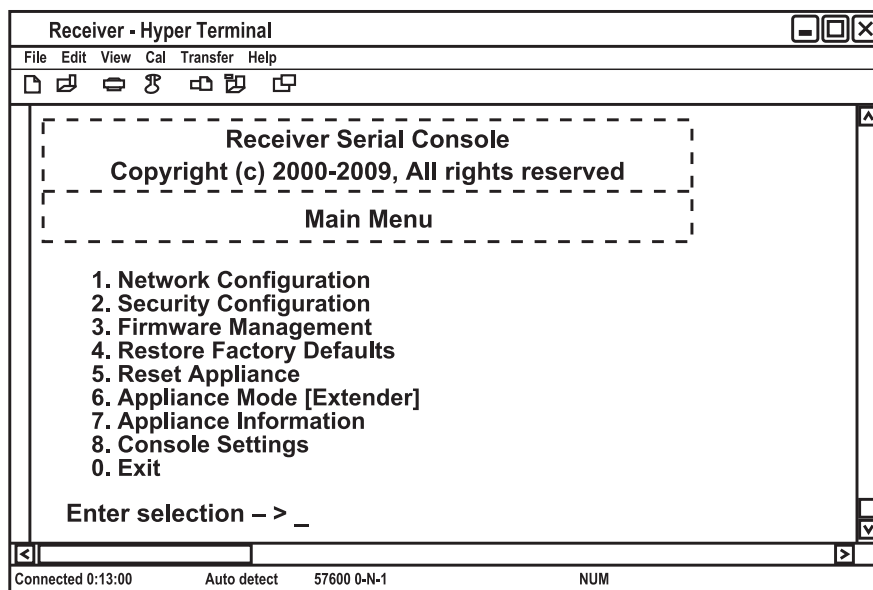

Figure 4-19. Receiver Main Menu.
2. Press "1" to access the Receiver Main Menu (see Figure 4-19) and press "Enter." If the password option is enabled, you will be prompted for a password.